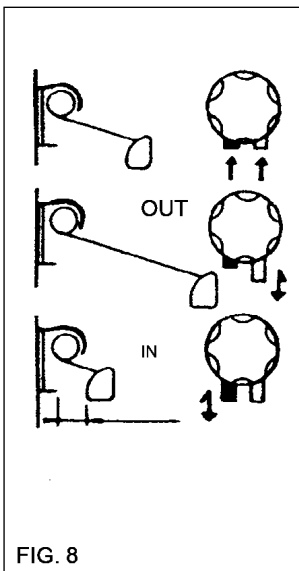

FIG. 8
A) SOMFY SLT (BLUE and YELLOW or WHITE button) (see fig. 8)